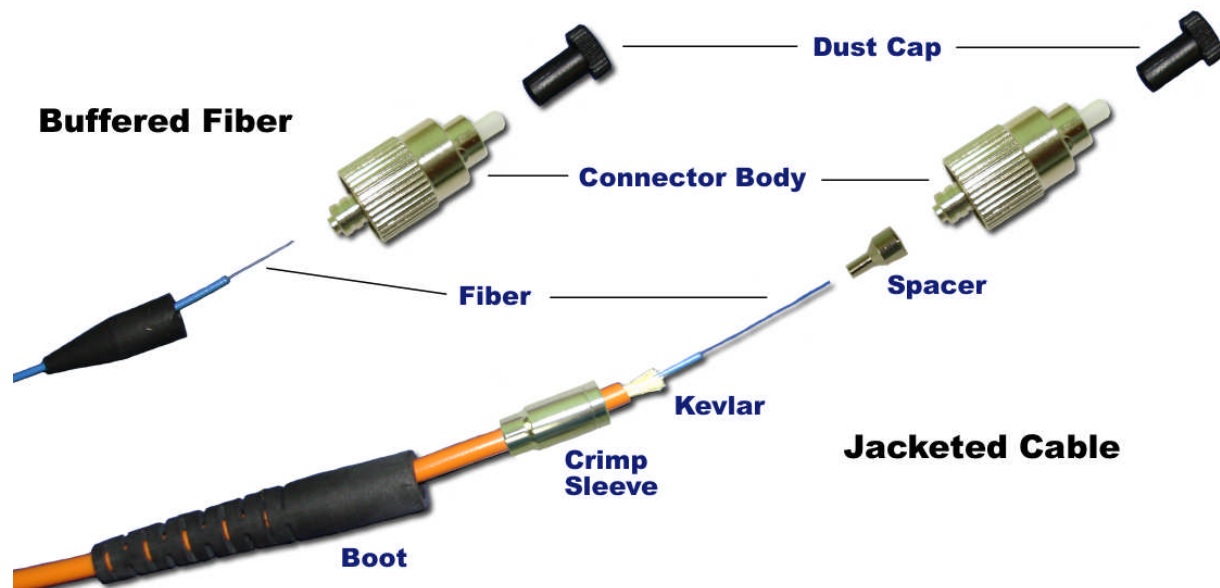

Fig 1
Fig. 1 shows the structure of the LightCon™ FC Connector, consisting of Connector Body, Spacer, Crimp Sleeve, Boots, Dust Cap, and Key Ring. Connectors for different cables/fibers may vary slightly by boots or crimp sleeves. Follow the steps below to make cable assembly.
Step 1 Slide the Boot and Crimp Sleeve onto the Cable as shown in Figure 1.